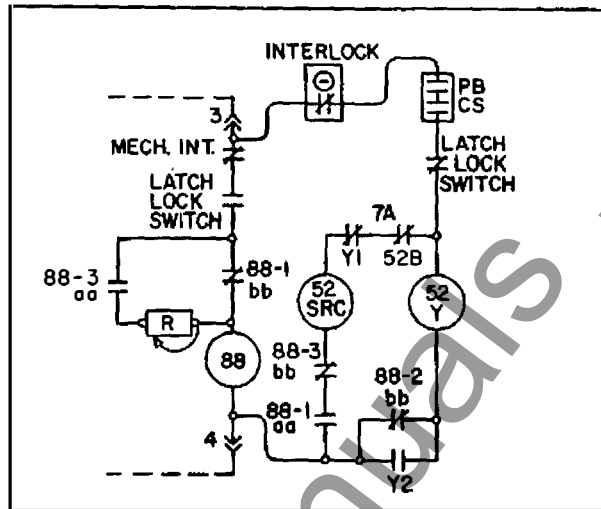
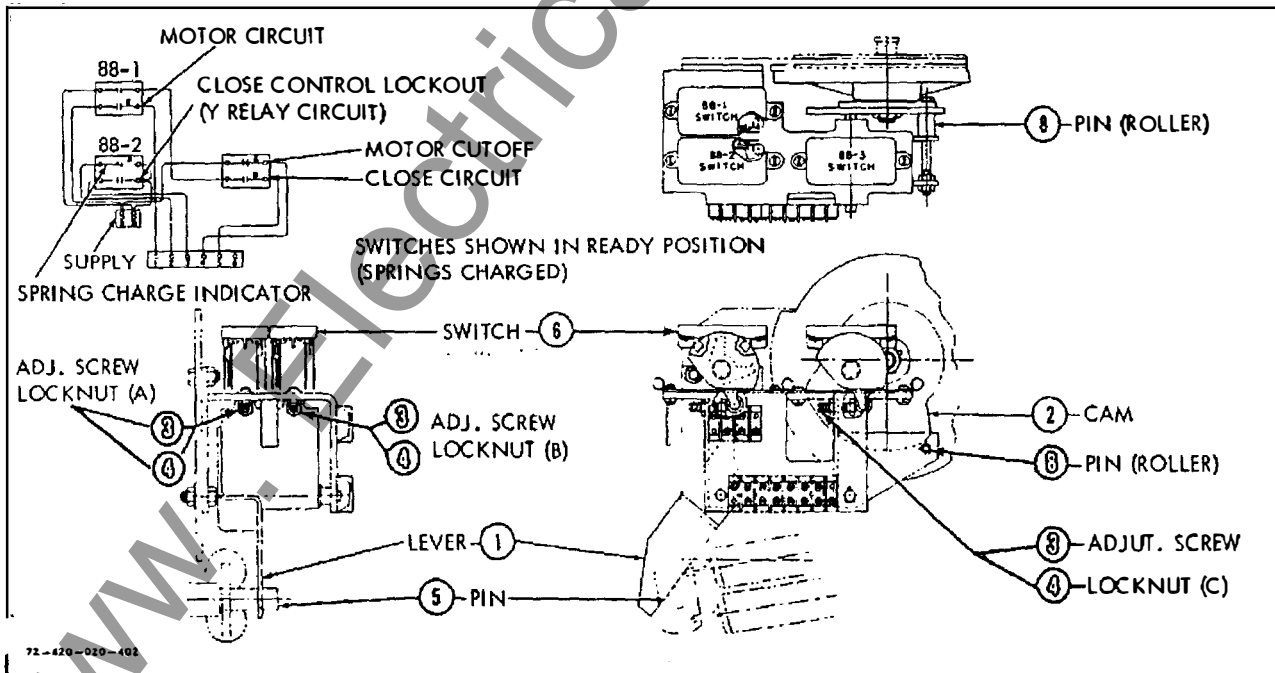

Fig. 9 - Control scheme for stored energy operator.
Fig. 10 - Motor control switch assembly for stored energy operator.
The normal control (Fig. 9) for this operator has been incorporated in one switch assembly located at the rear of the unit.
The main spring charging motor power is supplied through terminals 3 and 4, Fig. 9. The mechanical interlock is a switch operated by the breaker release lever which opens the motor circuit when the lever is depressed. The prop latch check switch is closed when the spring release latch is in reset position. The 88-1 and 88-2 switches are shown with the main closing springs discharged. When the control is energized, the motor starts to charge the springs. The 88-3 switch is operated by cam (2), Fig. 10, on the main gear. As the charging linkage charges the main closing springs, the motor switch cam rotates with the left-hand large gear. When the control is energized the motor starts to charge the springs. Just before the springs are fully charged, the 88-1 and 88-2 switches are thrown by lever (1) which is operated by pin (5), Fig. 10. The 88-1bb switch opens when the springs are fully charged. However, before this switch opens, the 88-3aa switch closes and connects the dropping resistor into the motor circuit. The motor continues to drive the gears until the free swinging cranks on the main gears are almost to the top of the grease. The motor then shuts off (cutoff by the c m operating the 88-3aa switch) and coasts until the cranks go over center and drop out of the way.
The motor control switch assembly (Fig. 10) consists of two heavy duty toggle switches (6) operated by common linkage (1) from the main closing springs and one heavy duty toggle switch (6) operated by a cam (2) driven by the main gear.
Motor Control Switch - The 88 motor control switch assembly (Fig. 10) is factory adjusted and pinned in position. If it should become inoperative, clean contact areas with an electrical cleaning solvent and spray dry silicon lubricant lightly between contact surfaces and pivot points.